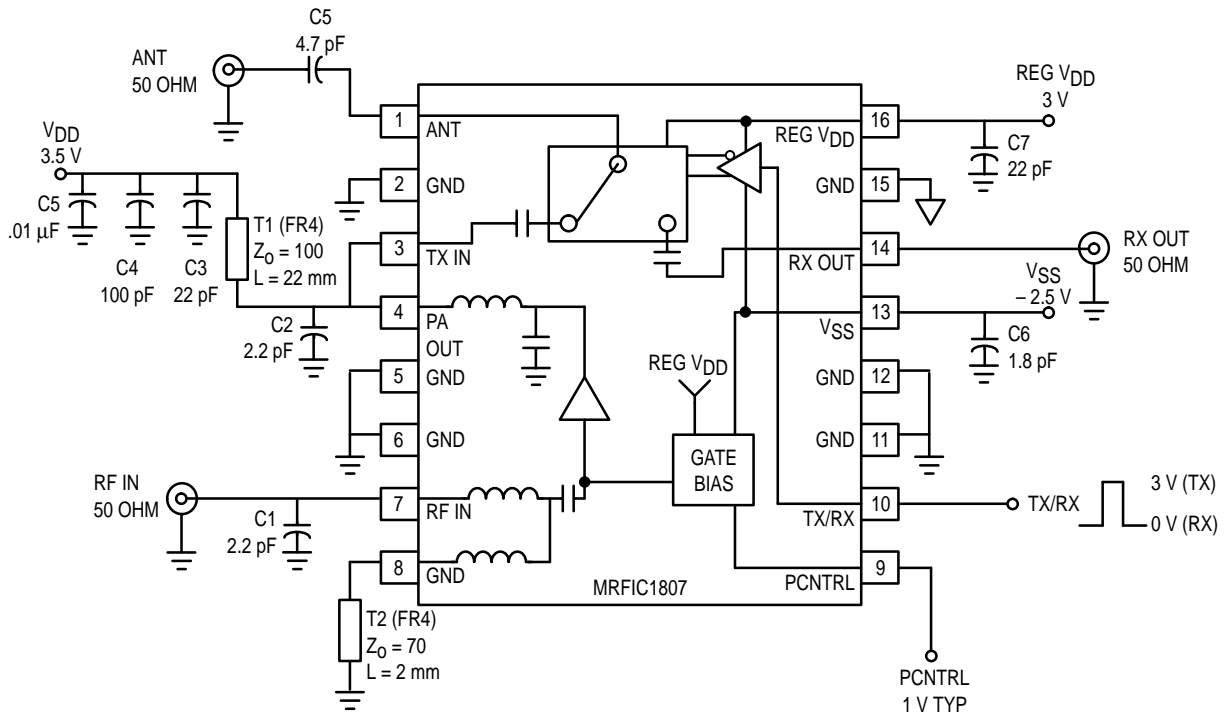

Figure 2. 1.9 GHz Applications Circuit Configuration
1. Measured with circuit configuration shown in Figure 2.
Figure 2 shows the component values for a DECT implementation of the MRFIC1807. For use in equipment designed for DECT, the power amplifier is operated close to saturation to improve device efficiency. Maximum power output at the antenna connector is 24 dBm during a burst. The constant envelope characteristics of the GMSK modulation allow non-linear amplification without spectral regrowth. The transmit signal must be shaped or "ramped" to meet system transmit turn on time requirements of 10 μ sec minimum while not splatting into adjacent channels. A turn on time on greater than